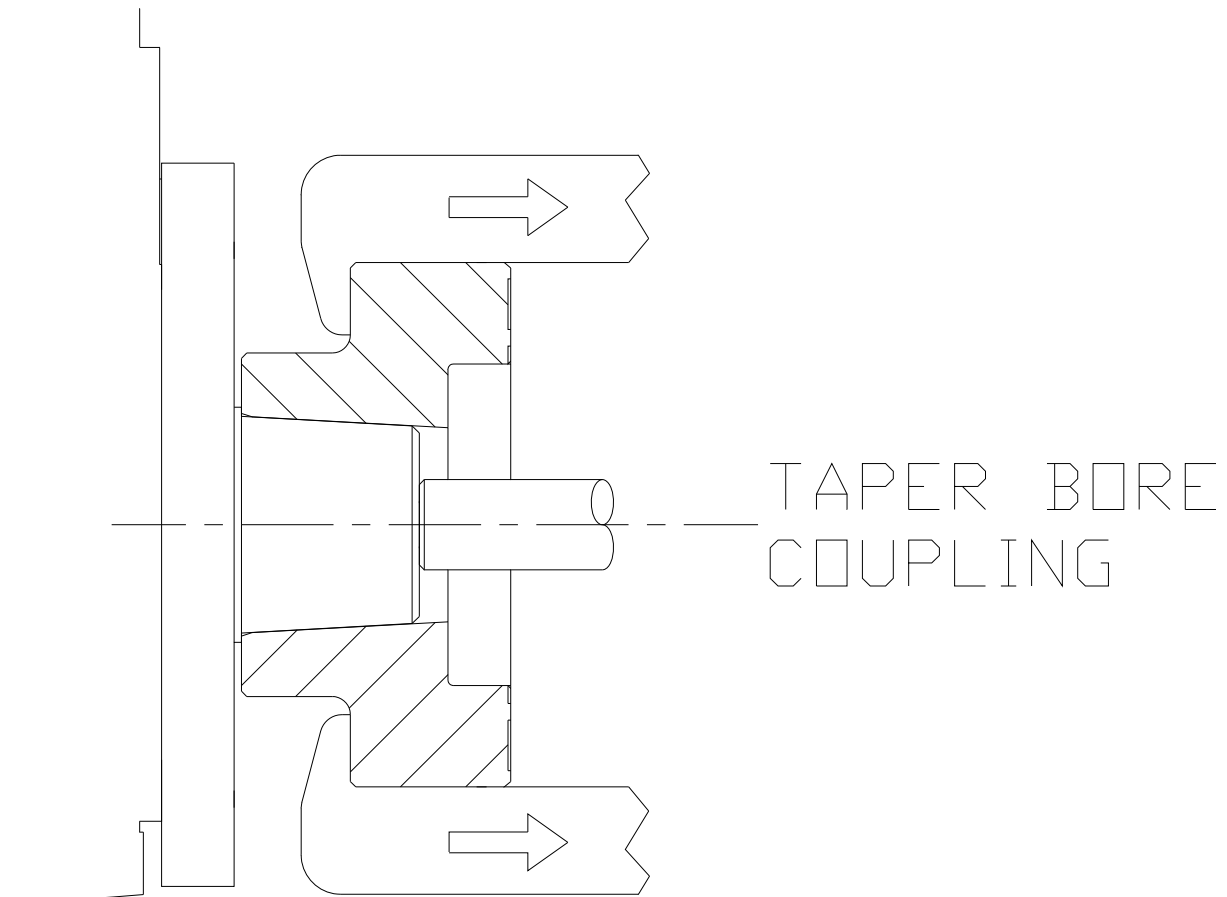

Figure 40. Simple Disassembly Device
2. Use an appropriate puller to pull the coupling from the output shaft (Figure 40). Apply force against the end of the exposed output shaft while pulling on the coupling. If necessary, a gentle tap on the side of the coupling with a hammer will help loosen the self-locking taper from the shaft.